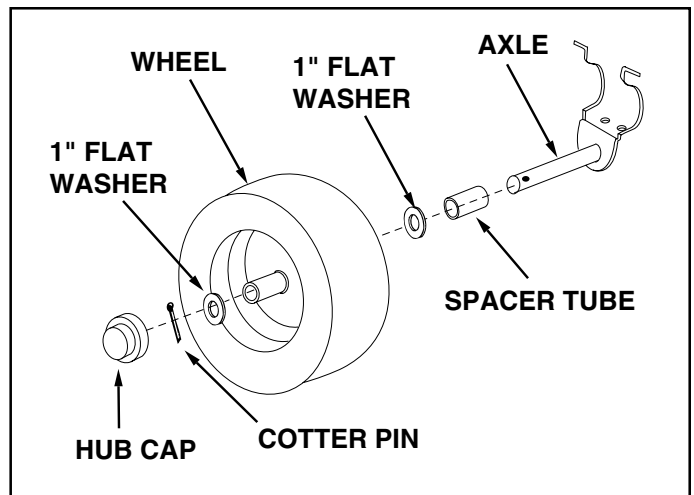

FIGURE 12
17. Assemble a spacer tube, a 1" flat washer, a wheel with the valve stem facing out, and another 1" flat washer onto the axle as shown in figure 12. Secure with a cotter pin and spread ends so that hub cap can fit over the cotter pin. Assemble the hub cap by pressing it onto the flat washer. Repeat for other end of axle.